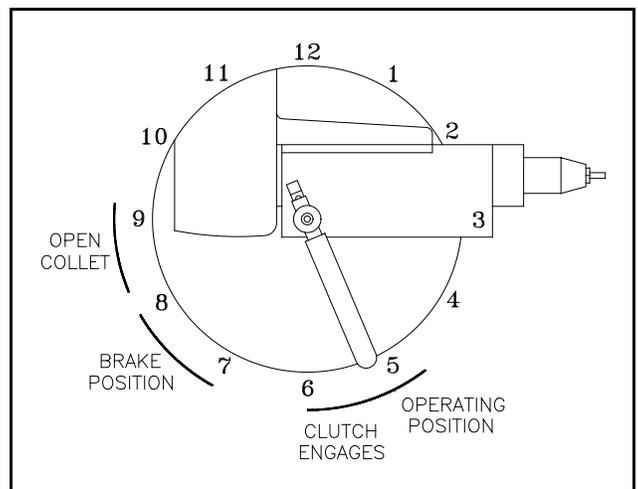

Figure 3.
- 5.2.3 Work is done with the handle in the operating position at approximately 5:00 o'clock. See Figure 3.
- 5.3.1 From the operating position move the handle clockwise to the open collet position (9:00 o'clock). See Figure 3.